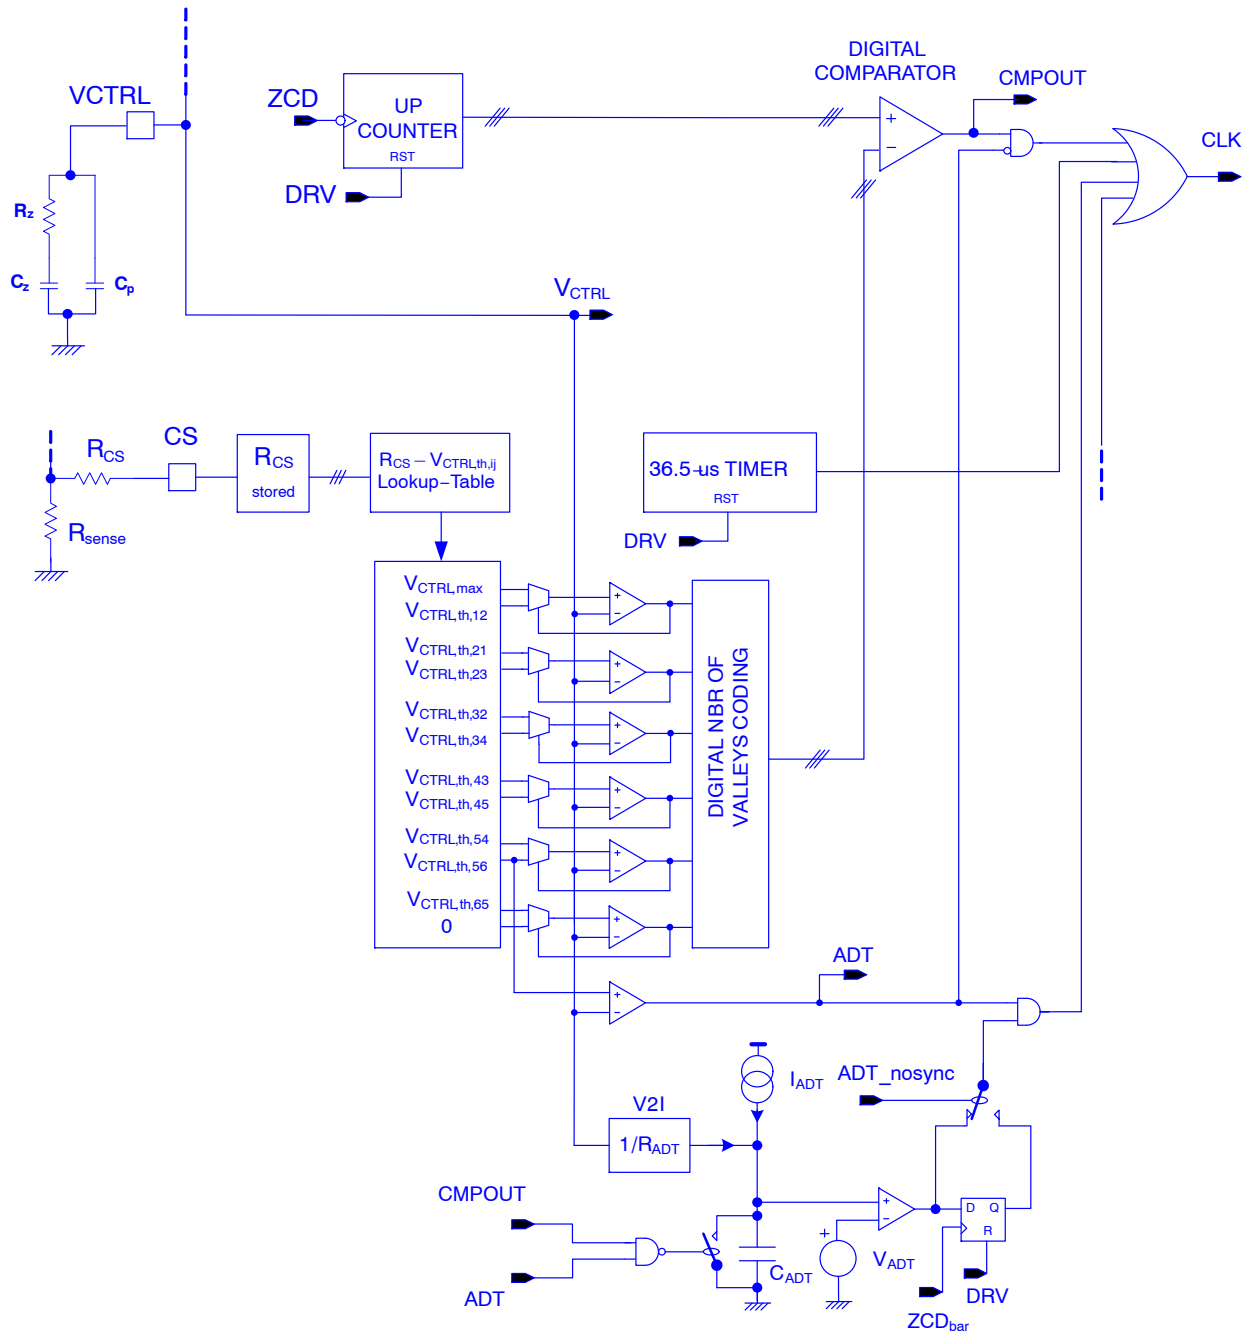

Figure 4. Valley Count Turn-on Block Diagram
- **Valley Count Frequency Fold-back:** NCL2801 is designed to drive PFC boost stages in so-called Valley Count Frequency Fold-back (*VCFB*). In high load current condition, the circuit classically operates in *Critical conduction Mode (CrM)* also called 1st valley switching. When output power is decreasing, if a threshold is reached (determined by sensing the CS pin impedance during initial power up), a dead time based on a number of valleys is added. The number of valleys will increase, each time a dead time window (based on  $V_{CTRL}$  value) is entered. By construction, this counting process will avoid valley hopping during the mains voltage period. If the output power continues decreasing and the 6th valley is reached, extra “analog” dead time will be added based on a voltage ramp (see Figure 4). On-time will be synchronized with a valley. A timer will clamp the total switching period to not exceed 36.5  $\mu$ s (the switching frequency will never go under about 27.4 kHz). The switching frequency depends on output voltage, input voltage, and boost inductor value, and increases as the load power increases. Hysteresis is added to the  $V_{CTRL}$  control windows to avoid valley hopping during steady state conditions. *VCFB* maximizes the efficiency at both nominal and light load. Similarly to *FCCrM* controllers, an internal circuitry allows near-unity power factor even when the switching frequency is reduced.
valleys between end of inductor demagnetization and power MOSFET turn-on determines the dead time value). After counting is done, the power MOSFET turns on at drain voltage valley. When 6th valley is reached and VCTRL voltage stays under 0.77 V, an extra “analog” dead time is added based on a voltage ramp (see Figure 4). The added analog dead time  $t_{ADT}$  is based on 0.77 V minus VCTRL value.  $t_{ADT}$  will be equal to zero when  $(0.5\text{ V} - V_{CTRL}) = 0\text{ V}$  and will increase monotonically versus VCTRL decreases while VCTRL is under the 0.77 V threshold corresponding to  $V_{CTRL,th,56}$ . The analog dead time added  $t_{ADT}$  will equal typically 20  $\mu\text{s}$  when  $V_{CTRL} = 0.5\text{ V}$ .
means of counting the falling edges of the ZCD signal until the counter reaches the number of valleys set by the window in which the VCTRL pin voltage is (see Figure 4). The 3-bit counter allows to work “Valley synchronized” up to six valleys. When the 6th valley is reached, and VCTRL is lower than 0.770 V ( $V_{CTRL,th,56} = 0.770$  V whatever frequency foldback threshold setting), an additional analog dead time will be added to the 6 valleys dead time and there will be valley synchronization turn-on of the power MOSFET ( $ADT\_nosync = 0$  by default) based on falling edge of ZCD signal. The total dead-time (number of valleys and extra analog dead-time) will not exceed 36.5  $\mu$ s. As a result of this timer the minimum switching frequency will not go under 27.4 kHz.
There will be a different DCM to CrM threshold than CrM to DCM making an hysteresis to avoid valley hopping (see Table 7 and Figure 4).
of Table 7 that  $V_{CTRL,th,56}$  which is the  $V_{CTRL}$  threshold at which we force counting six valleys, has always the same value. This threshold is also called  $V_{CTRL,ADT}$  because when  $V_{CTRL}$  pin voltage falls under this threshold, an analog dead-time starts to be added to the dead-time determined by counting six valleys. The lower  $V_{CTRL}$  pin voltage goes under  $V_{CTRL,ADT}$  threshold, the more analog dead time is added. An example on how the analog dead time can be added is shown in the circuit of Figure 4 and the correspond power MOSFET drain voltage is shown in Figure 3.